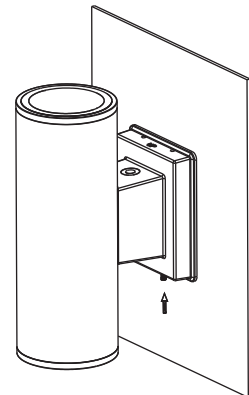

Figure 6
- Move up and hang the fixture in its final position on the mounting plate, tuck all wires inside.. Attach and secure it to the mounting plate by tightening the lower screw. (Figure 6)